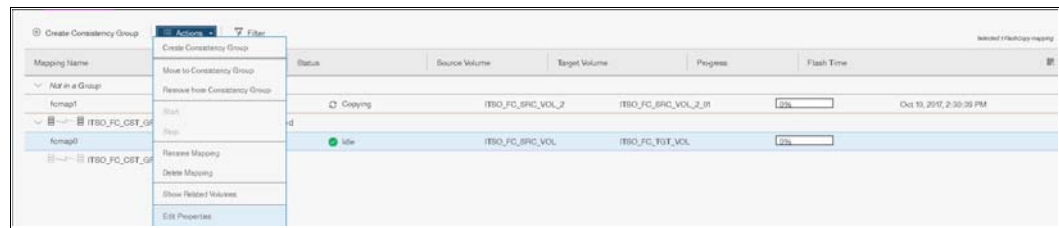

Figure 10-57 Edit Properties
3. Click **Actions** → **Edit Properties**, as shown in Figure 10-57.